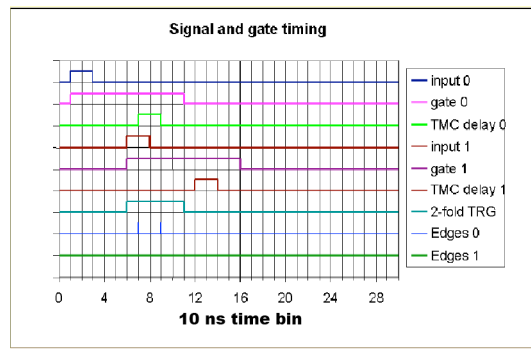
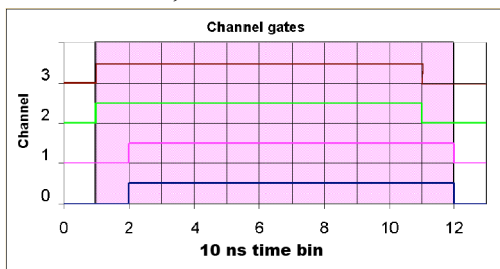

Figure 43. Signal and gate timing diagram for Example C.
Figure 46. Channel gate-timing diagram (card trigger interval is shaded) for Example D.
Example C (Figure 43)
Figure 46 shows the channel trigger bits as a function of time, in units of 10 ns.
4. In 10 ns time bin 2, pulses arrive in channels 0 and 1, setting *their* trigger gates for 10 ticks. Thus, the 2-fold coincidence requirement is met continuously from time bin 1 until time bin 11, a total of 11 clock ticks or 110 ns (shaded area in Figure 46).
6. Only edges that are within the trigger interval *after* they have been delayed by six ticks are put into the datastream. Thus, all the pulses in Figure 43 are recorded, but the second falling edge of channel 3 (which is off the figure to the right) will fall outside the shaded area in Figure 46 and will not be recorded.